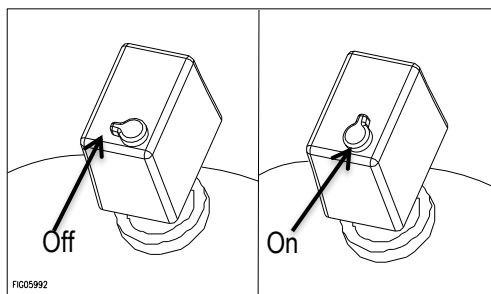

Figure 15
1. Verify that the pressure switch is in the OFF position. (Figure 15)